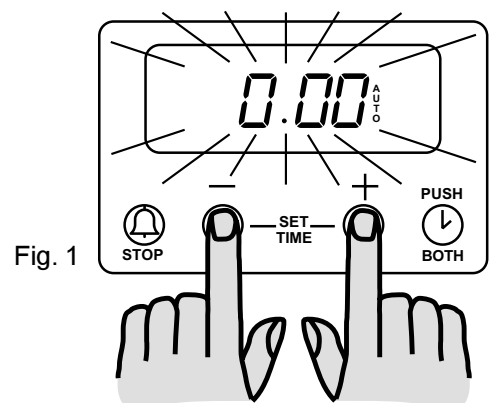

Fig. 1
1. Press button "+" and "-" together (See Fig. 1).